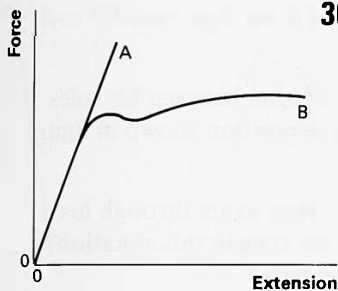

Figure A104
- 36(R)** The force–extension curves of two steel wires of identical dimensions are shown in figure A104.